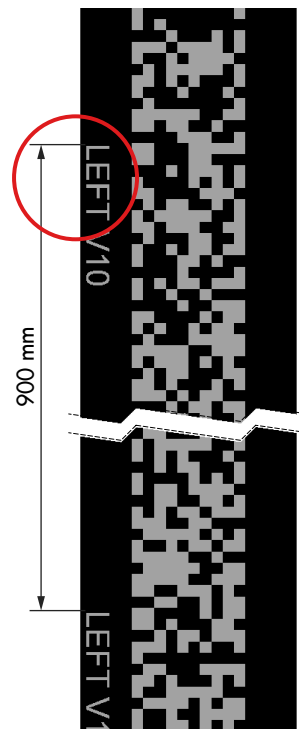

Figure 22: APS code tape markings (left side)
**Important:** Before mounting the APS code tape, make sure that the “LEFT markings” on the APS code tape are on the left side → Figure 22.